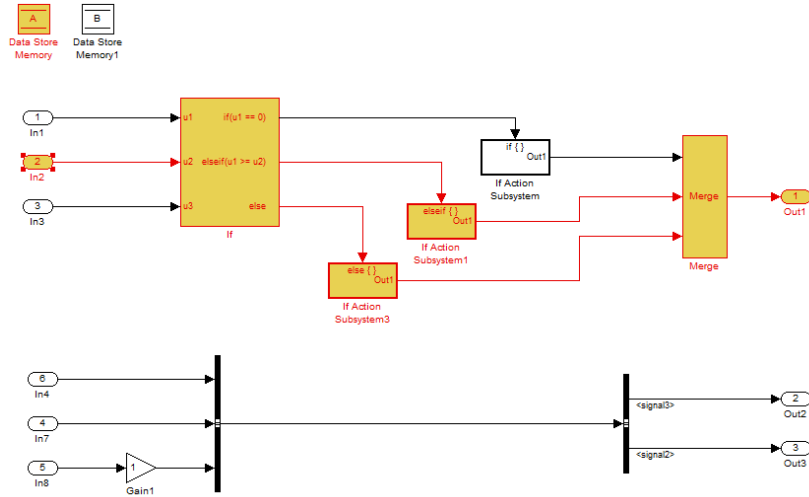

Figure 4: Resulting model after Reach From Selected operation
1. First, let us perform a reachability analysis to find all possible dependencies of the Inport block In2. To do this, right-click on the block and select the **Reach From Selected** option. The resulting model is shown in Figure 4. In2 is used in the last two condition checks of the If block and this data flow is traced to Outport block Out1. Doing a reachability analysis on In2 also shows clearly that it impacts the Data Store Memory block A.